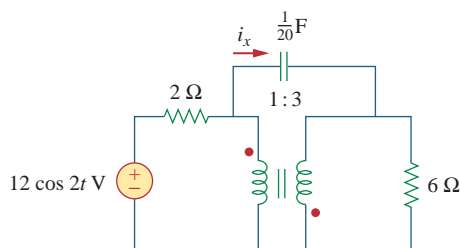

Figure 13.114
- 13.49** Find current i_x in the ideal transformer circuit shown in Fig. 13.114.